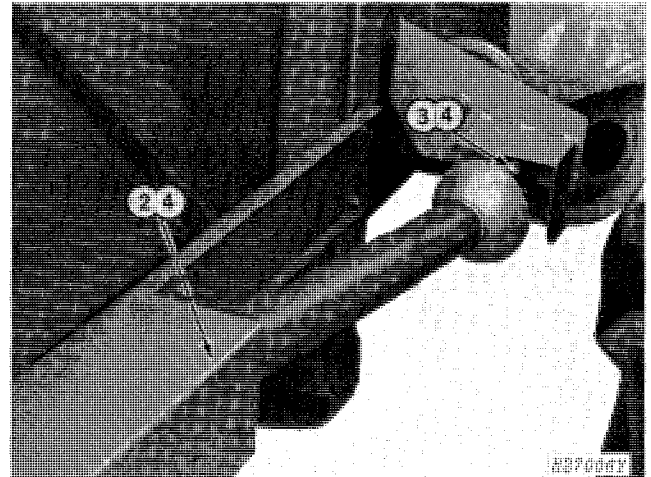

Fig. 100-Connecting Drive Shafts
2. Slide the hex. end of telescoping drive shaft on hex. shaft on the corn head (both sides) (Fig. 100).
3. Slide splined end of drive shaft on the splined feeder house shaft (both sides) (Fig. 100).
4. Tighten clamp bolt on each end of drive shaft (both sides) (Fig. 100).